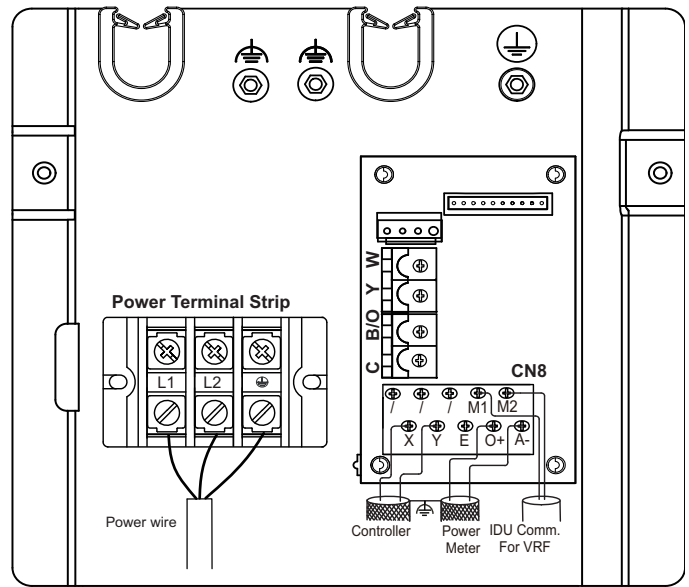

Fig. 58 —Connect Power Wiring
1. It is forbidden to connect the power cable to the communication terminal. Otherwise, the control board will be damaged. See Figure 58.